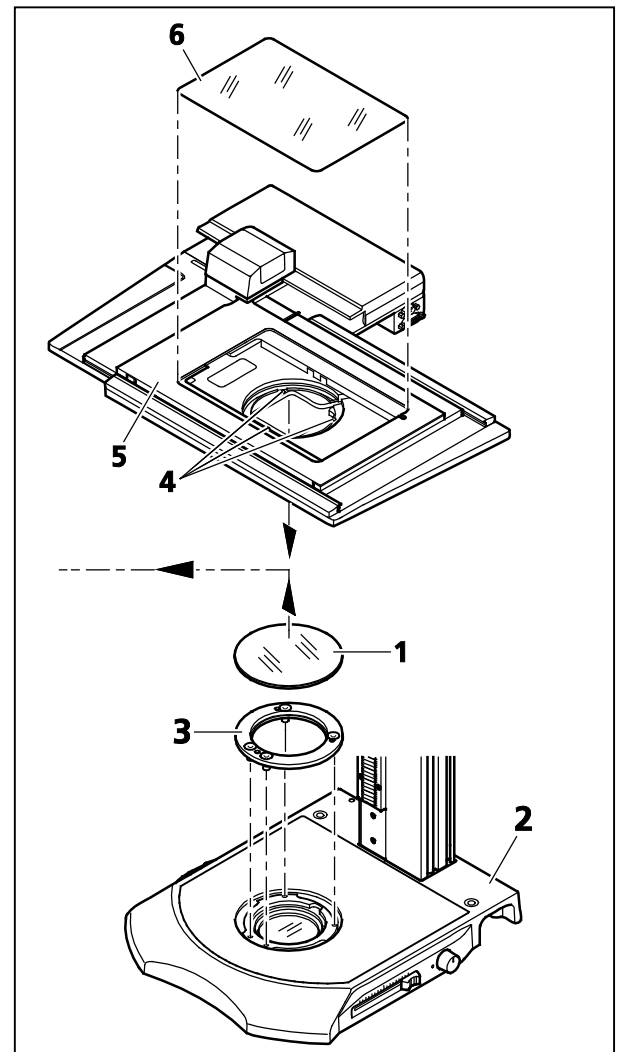

Fig. 7 Mounting the mechanical / measuring stage mot. on transillumination base 300
- If necessary, remove the glass plate (Fig. 7/1) from the transillumination base 300 (Fig. 7/2) by pressing on the rear edge to tilt it.
- Insert stage adapter 84+120 (Fig. 7/3) into the transillumination base 300 and screw it hand-tight with the 4 captive screws.
- Set the mechanical / measuring stage (Fig. 7/5) on the transillumination base 300 (stage drive pointing to the left), align to the rear edge and secure with the three captive screws (Fig. 7/4) of the stage.
- Insert the glass plate (Fig. 7/6) into the stage.
The red dots on the table (Fig. 7/5) and metal plate (Fig. 7/6) are to ensure reproducibility of the alignment of the metal plate and stage if the former needs to be detached.